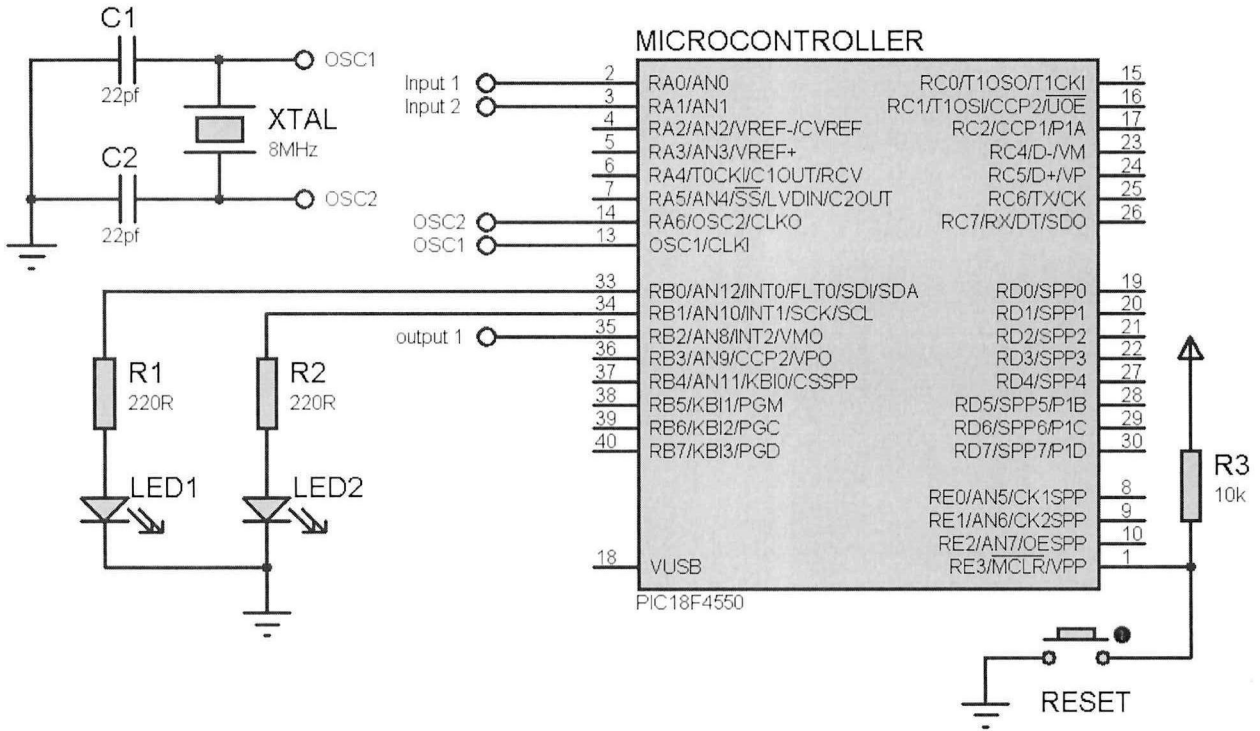

Figure Q2
Q2 **Figure Q2** shows a simple circuit diagram using PIC 18F4550 with two analog input via RA0 and RA1 pins. There are two LEDs, LED1 and LED2 connected to RB0 and RB1 respectively. RB2 is connected to another output called output 1. The PIC is clocked at 20MHz.
- (a) Based on the circuit in **Figure Q2**, determine and explain the initialization value of ADCON0 if an application require the system to input a temperature sensor on RA0. Suggest the most suitable value for ADCON1 and ADCON2. (5 marks)
- (d) Referring to **Figure Q2**, write a simple C program to light the LED1 when the analog value of RA0 is greater than RA1 and light the LED2 when the analog value of RA1 is greater than RA0. (9 marks)
- Q3** (a) List **THREE (3)** factors that may affect the speed of a motor. (3 marks)